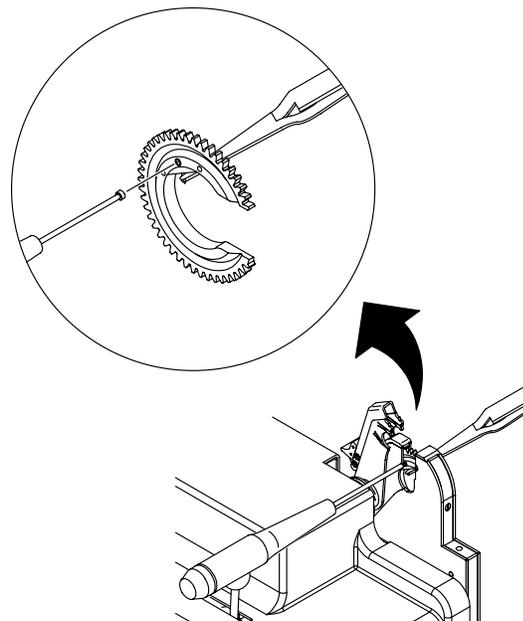

Figure 60 Removing the Electrode
4. Remove the electrode set screw. See Figure 60.